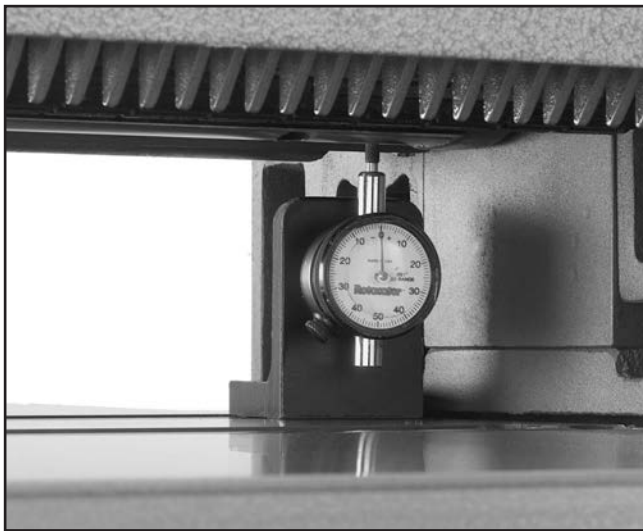

Figure 10. Rotacator measuring cutterhead/table for being parallel to each other.
2. Set the Rotacator® dial to .000". Place the Rotacator® under the cutterhead on one end. Turn the cutterhead so the plunger on the Rotacator® will contact the cutterhead body as shown in **Figure 10**. Raise the table up enough for the cutterhead to get a reading on the dial.